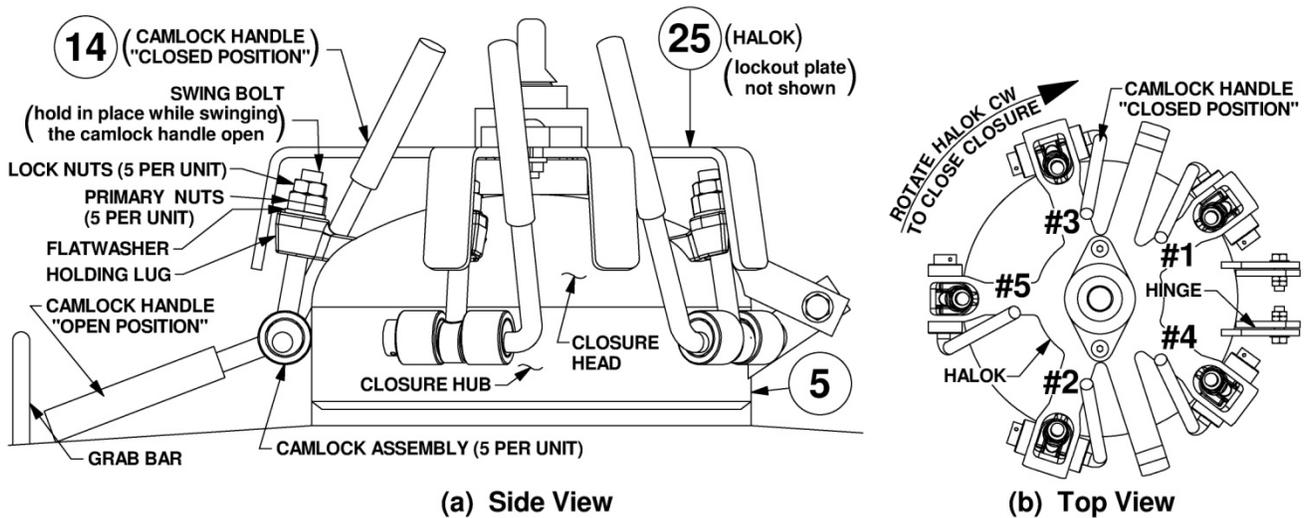

Figure 6.4.1 – Bulk Abrasive Blaster Closure Assembly
6.4. Closure Assembly Closing Procedure (See Figure 6.4.1 and 6.4.2).
- 6.4.3. Each time the closure assembly is opened all the camlock assemblies and hinge assemblies must be inspected for damage, including but not limited to, corrosion, cracks, and deformations. Make sure all the swing bolts, nuts, washers, cams, spring pins, and handles are in place (See Drawing 9.3(a)). Inspect the threads of each swing bolt and (2) nuts for corrosion or wear. Each camlock assembly and hinge must be tested for ease of operation. Any camlock, swing bolt, nut, or hinge that show signs of damage, corrosion, wear, or does not swing freely must be repaired or replaced *before* re-pressurizing the blast vessel. The camlock handles must be installed into the cam lugs as shown in Figure 6.4.1(b) so there is no interference with closure head handle or hinges and to insure proper operation of the closure Halok® (#25). The torque on the camlock assembly nuts must be properly adjusted. See Sections 8.4 and 8.5 for closure assembly maintenance instructions and adjustment procedures.
- 6.4.4. Swing all the swing bolts into position within the holding lug. Be sure each swing bolt has the required (2) nuts and flat washer, and they are in good condition. See Figure 6.4.1.
- 6.4.5. After all the swing bolts are in position within the holding lugs rotate the Halok® (#25) clockwise to allow access to the camlock handles (#14). See Figure 6.4.1.
- 6.4.6. In the numbered sequence shown in Figure 6.4.1(b), tighten each swing bolt by swinging each of the five camlock handles into the “closed position” against the closure head. If necessary a 1/2” pipe 12 inches long can be slipped over the end of the camlock handle to increase leverage.